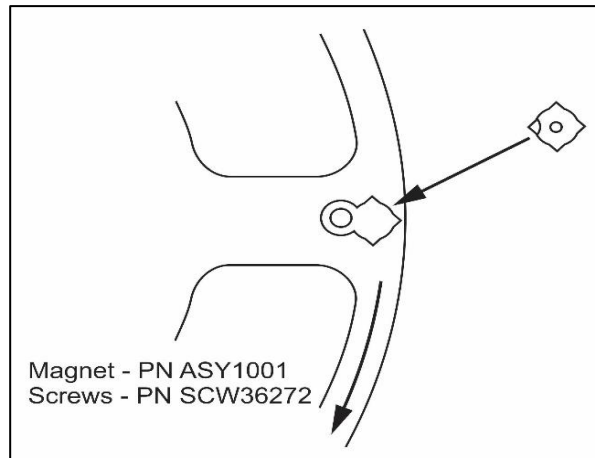

Figure 5: Installing the Magnet
4. Install the magnet in the wheel with the hole in the plastic over molding facing out from the engine (**Figure 5 above**). The chamfer on the magnet must be positioned next to the chamfer on the wheel.